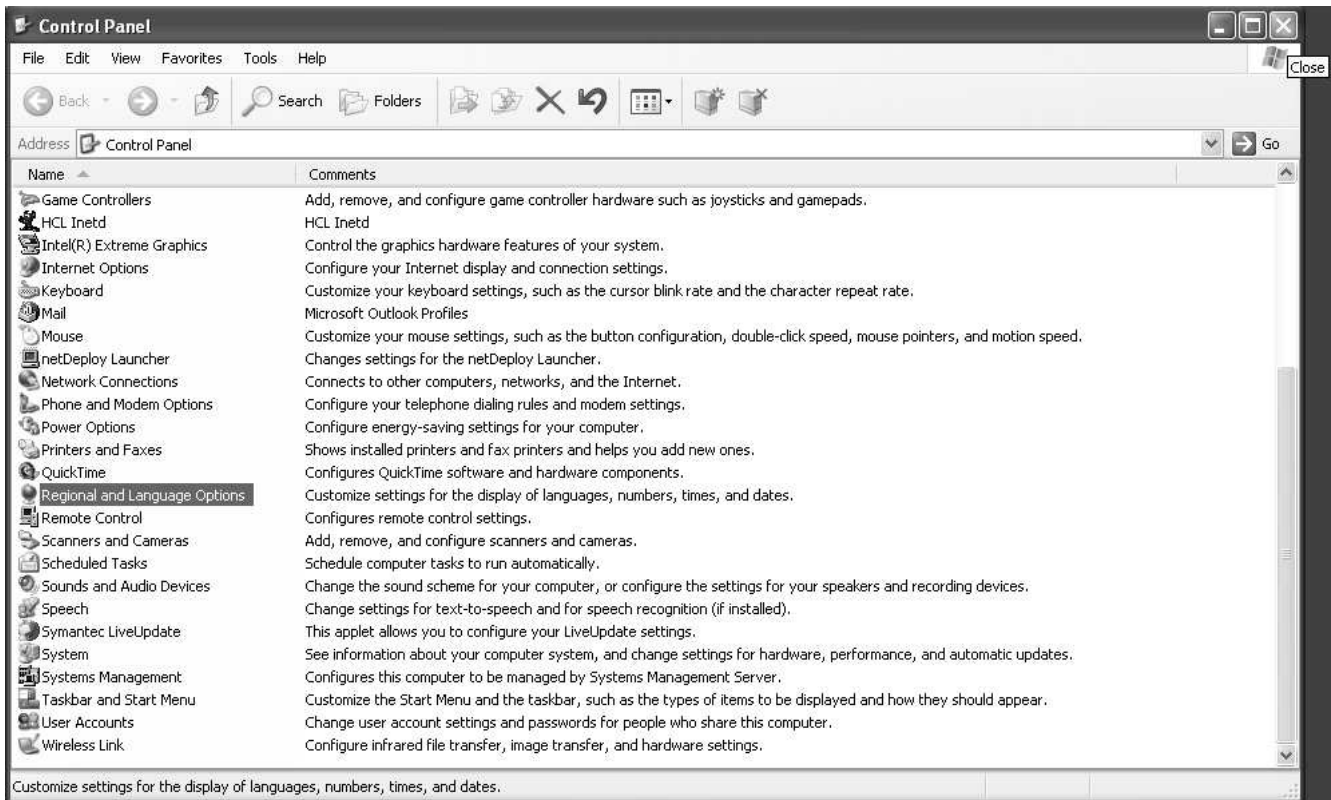

Figure 35. Windows Control Panel
9. In the Regional and Language Options window, as in Figure 34, click on **OK**. This closes all pop-up windows and returns to the main Control Panel window on the desktop. Close this window by clicking on the **X** in the upper right-hand corner of this window, as shown in Figure 35.